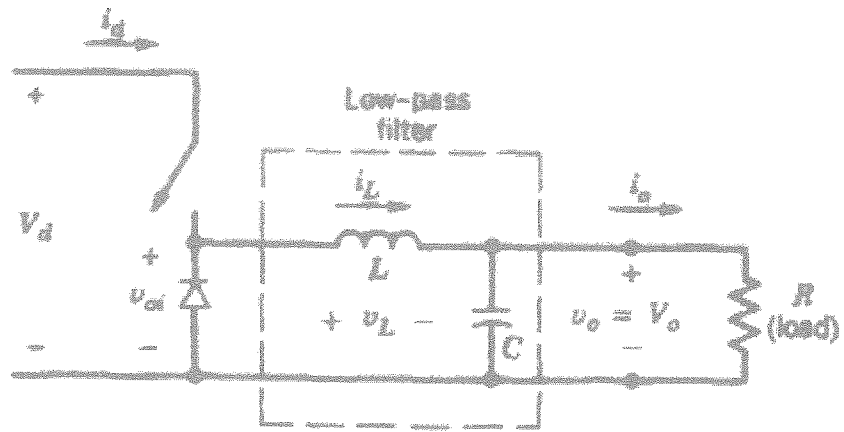

Figure Q2: Buck Converter
- Q2 a) The buck converter shown in Figure Q2 is used to regulate a DC power supply.